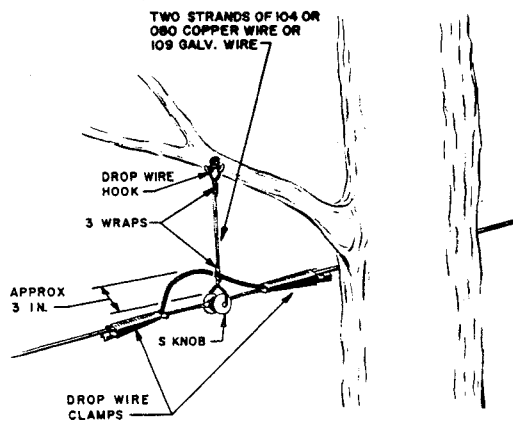

Fig. 18—Tree Pull-off
5.07 Install tree pull-offs as shown in Fig. 18.